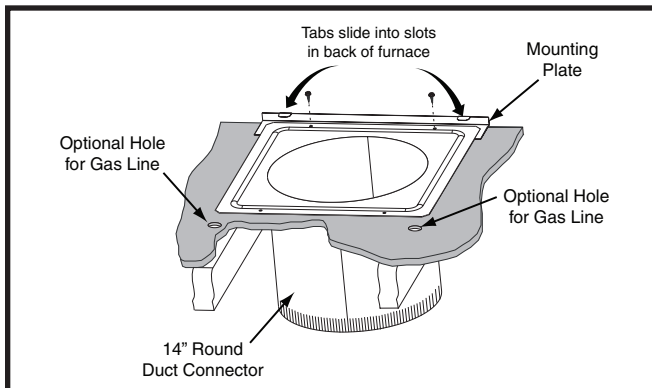

Figure 16. Round Duct Connector
2. Install the mounting plate (Figure 16) under the back side of the duct connector. **NOTE:** Make sure the screw holes are aligned in both components.